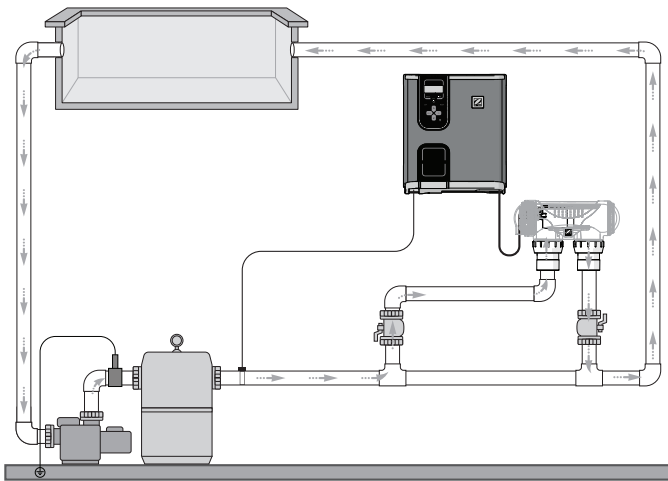

Figure 3. Plumbing Cell Only
The cell must be plumbed in a position that is accessible for maintenance and within 2 meters of the controller. The cell should be the last piece of equipment in the circulation system. The cell must be installed horizontally, level and with correct flow orientation, see Figure 3 and Figure 4.
1. If you intend to plumb the cell on a bypass, the bypass must be equipped with Isolation valves, see Figure 3 and Figure 4.
- The cell must be the last piece of equipment on the return line, see Figure 3 and Figure 4.
- It is recommended in all installations that the cell is installed on a bypass equipped with isolation valves, see Figure 3 and Figure 4.
- In order to avoid load loss, installing the cell on a bypass is **MANDATORY** if system flow rated exceeds 300 Lpm, see Figure 3 and Figure 4.
The temperature sensor must be installed upstream from any heating equipment, see Figure 3 and Figure 4. The sensor will need to be placed into the plumbing system at any suitable position after the filter pump and before any heating equipment.